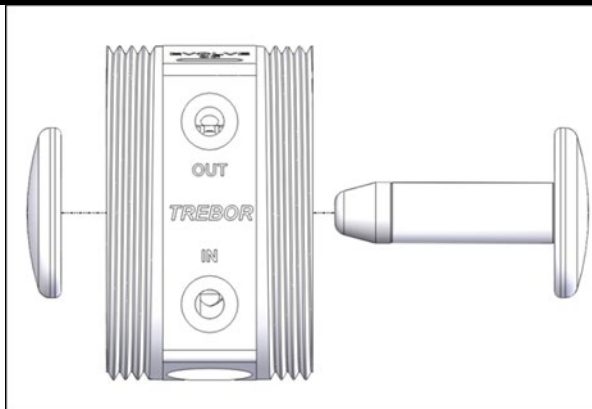

Figure 4-6: Shaft Insert Diagram with Tool
- Thread shaft onto shaft insert tool and insert shaft into bore. See Figure 4-6. This prevents damage to the PTFE shaft seals and prevents dislodgement of shaft seals.